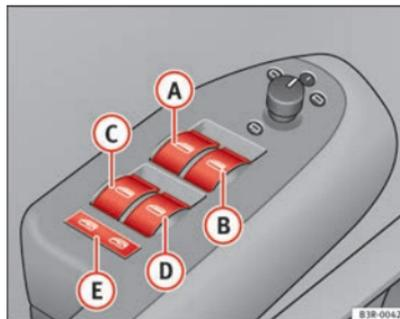

Fig. 80 Detail of the driver door: Controls
- (A)** Switch ⇒ Fig. 80 for the driver door window
- (B)** Switch for the front passenger door window.
The safety switch ⇒ Fig. 80  can deactivate the rear door switches. The windows can only be operated from the rear when the safety switch is pressed in.